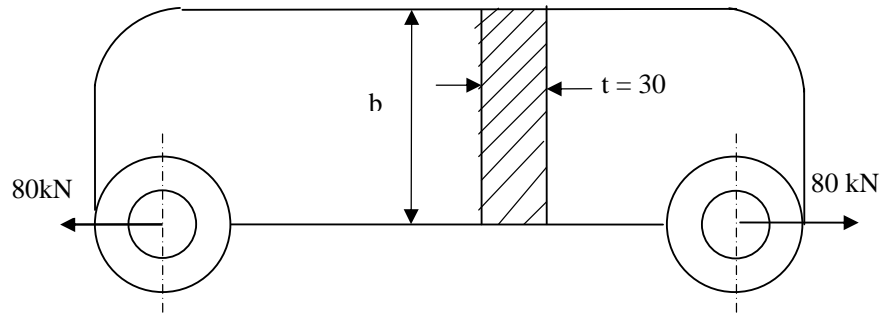

Fig. 2; Q. 3 (a)
- Q.3 (a)** A mild steel link is as shown in Fig. 2, which is subjected to a tensile load of 80 kN. Find the b. The permissible tensile stress is 70 MPa. **07**